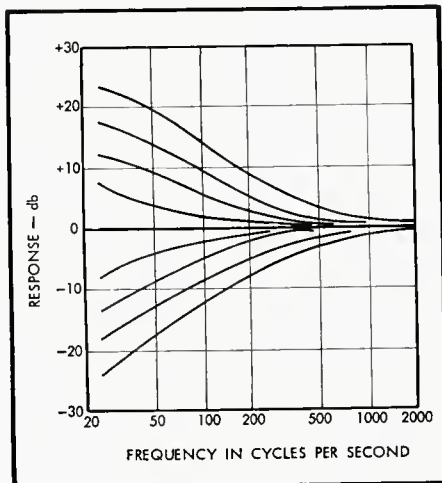
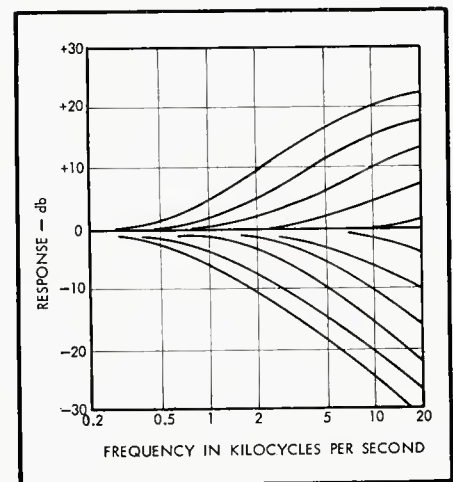
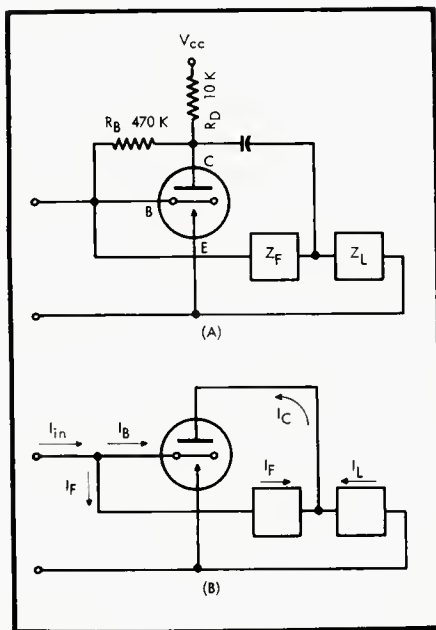

Fig. 3. Measured response of circuit of Fig. 2 for various bass-control settings.
Fig. 4. Measured response of circuit of Fig. 2 for various treble-control settings.
Fig. 5. Transistor feedback circuit for obtaining stabilized current gain approximately equal to  $Z_F/Z_L$ .
range of bass and treble control, is shown in Fig. 2. The second stage is the tone control, while the first and third stages provide amplification as well as suitable source and load impedances for both the tone control and externally connected circuits. The transmission characteristics of the entire circuit for various settings of the bass control are shown in Fig. 3, and similar curves for the treble control are shown in Fig. 4. The bass and treble characteristics are completely independent. The total response for any condition of the bass and treble controls thus may be obtained by adding the curves of Figs. 3 and 4.
The manner in which the circuit of Fig. 2 achieves the results shown in Figs. 3 and 4 will now be described. At (A) in Fig. 5, a transistor feedback circuit is shown in which d.c. collector
current is supplied by the resistor  $R_D$ , and d.c. stabilized base bias current is supplied through the resistor  $R_B$ . If  $Z_F$  is low in impedance compared with  $R_B$  with which it is in parallel, and  $Z_L$  is small compared with  $R_D$ , with which it is in parallel for audio signals, we may approximate (A) of Fig. 5 with the circuit of (B). A signal current flowing into the base of the transistor will be amplified and a much larger current will flow into the collector of the transistor. This current will divide at the junction of  $Z_F$  and  $Z_L$ . The manner in which this current divides depends upon the fact that the signal voltage at the base is negligibly small, so that the ends of  $Z_L$  and  $Z_F$  remote from the collector are essentially at ground potential. Thus the voltages across  $Z_F$  and  $Z_L$  are equal and the currents are in inverse ratio of the resistances; in other words, if  $I_L$  is the load current and  $I_F$  is the feedback current,  $I_L/I_F$  is equal to  $Z_F/Z_L$ . If the gain from base to collector of the transistor is high (e.g., 50 times) the base current may be small relative to the feedback current. The input current, which is equal to the sum of the base current and the feedback current, is then essentially equal to the feedback current. Hence, the current gain,  $K_i$ , from input to load of the circuit of (B) is given approximately by  $I_L/I_F$ , and
If  $Z_F$  and  $Z_L$  of Fig. 5 are replaced by a pair of capacitors  $C_F$  and  $C_L$  (whose impedance varies inversely with frequency) the current gain will remain flat with frequency as long as the conditions of Eq. (1) hold, since the fre-
quency dependence of  $Z_F$  cancels that of  $Z_L$ . By proportioning the capacitors suitably, and designing the remaining circuit properly, Eq. (1) may be made to hold over the entire audio band. In particular,  $Z_L$  must not get too small relative to the input resistance of the amplifier stage following the tone control, since the high-frequency response will be about 3 db down at the frequency at which the capacitive reactance of  $Z_L$  is equal to the third-stage transistor input impedance. Furthermore, at low frequencies, the capacitive reactance of  $C_F$  will rise as the frequency is lowered until the low-frequency response is 3 db down at the frequency at which the capacitive reactance of  $C_F$  is equal to the total resistance in shunt with it. This total resistance is made up of the parallel combination of three components: First, the bias resistance shown at (A) in Fig. 5; second, the collector-to-base resistance of the transistor itself, which is of the order of two megohms; third (and most esoteric), the d.c. load resistor multiplied by the current gain of the transistor, which is of the order of one-half megohm if the transistor current gain is 50 times.